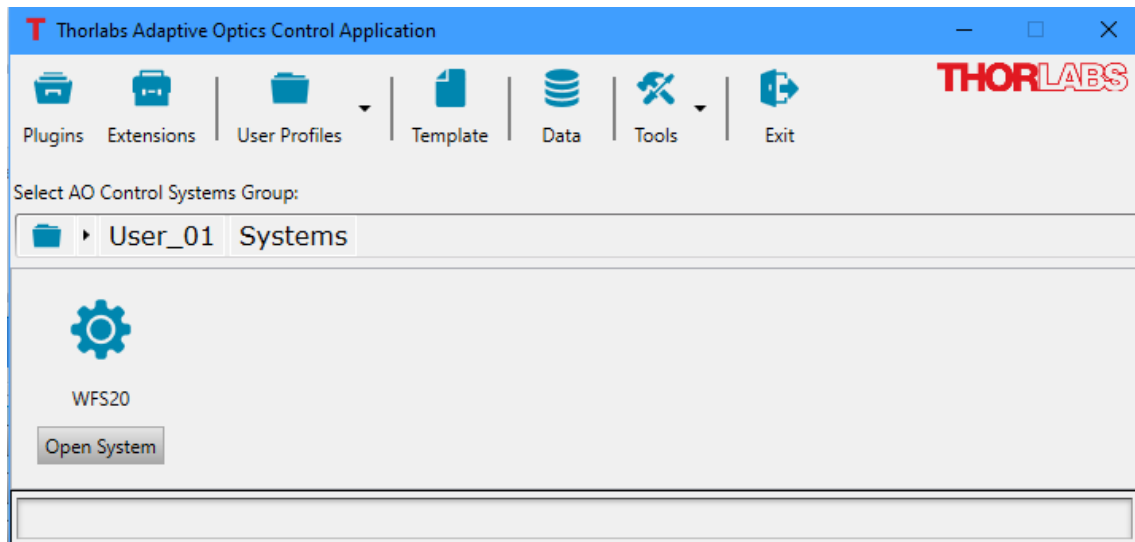

Figure 81 The Main Window Showing a Newly Created System Titled WFS20 Within the User Profile User_01 and Control System Group Systems
6. Clicking the Ok button in the User Profile window will cause the Main window to update. An icon will appear in the lower section of the window when the Control System Group within the User Profile within which the system was created is selected. See Figure 81.